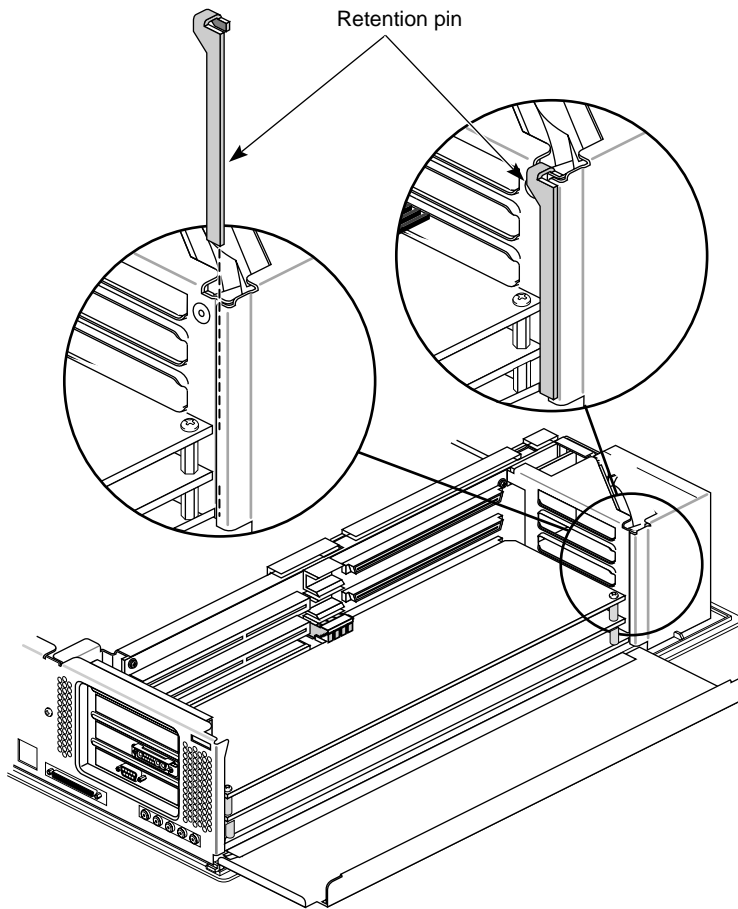

Figure 5-55 Removing the Retention Pin
- Grasp the retention pin on the right-front end of the board set and pull it up and off. See Figure 5-55.